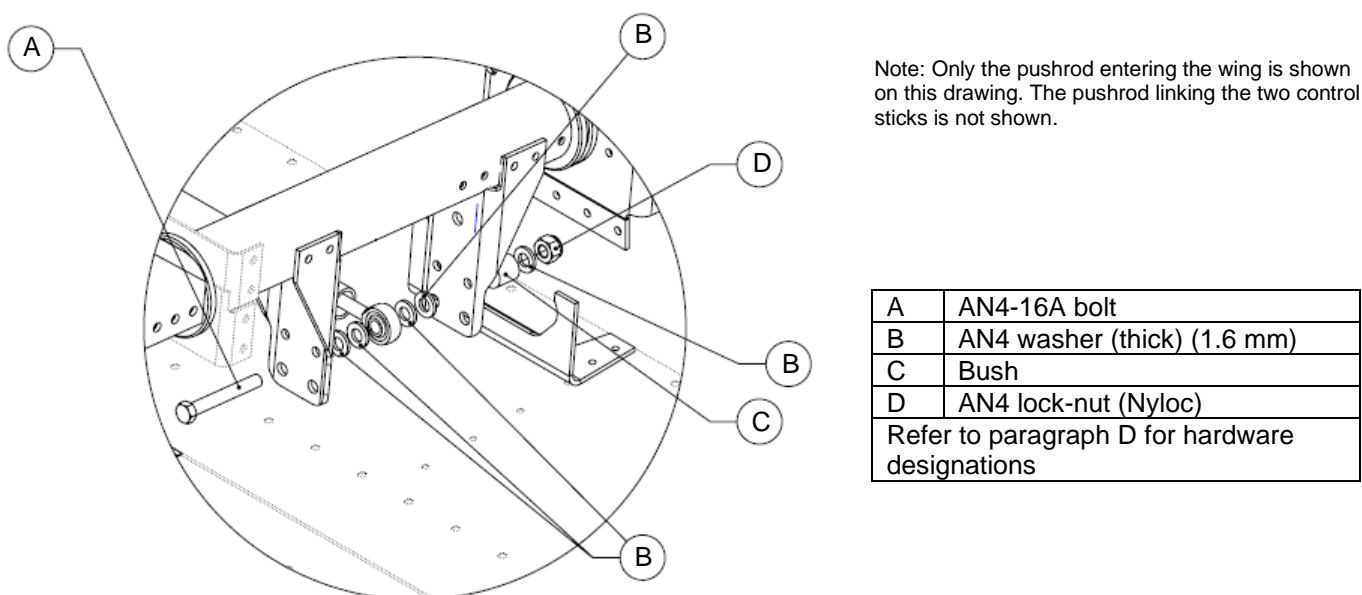

Figure 9: Aileron pushrod-to-control stick connection.
- Figure 9) and note that the bolt is installed with its head facing the nose of the aircraft.